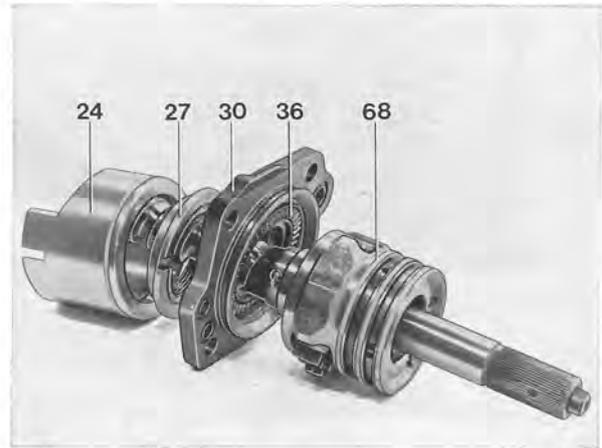

Fig. 6-79. Worm parts
- Place the O-ring (26) and piston ring (25) in the recess on the sleeve (24). Fit the preassembled cover (30) with bearing washer (35), bearing (36), ring (27) and sleeve (24) on the worm, see Fig. 6-79.